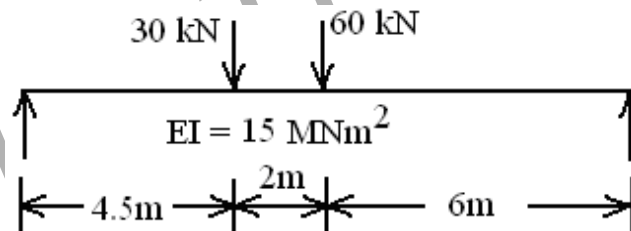

figure 4
7. Compute the maximum deflections and support rotations in the beams of the following figure 4 using